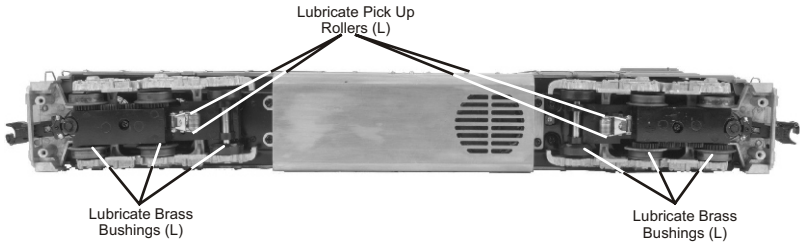

Figure 5. Lubrication Points on the Locomotive
1. Although the engine was lubricated at the factory, it is important that you lubricate the chassis before operation. Lightly grease the outside idler and drive gears (marked “G” in Fig. 7 on pg. 13) with lithium-based grease to prevent them from squeaking and premature wear. Use light household oil and follow the lubrication points (marked “L” in Fig. 5 on pg. 12). Do not over-oil. Use only a drop or two on each pivot point.
You should regularly lubricate the engine to prevent it from squeaking. Use light household oil and follow the lubrication points marked “L” in Fig. 5. Do not over-oil. Use only a drop or two on each pivot point.